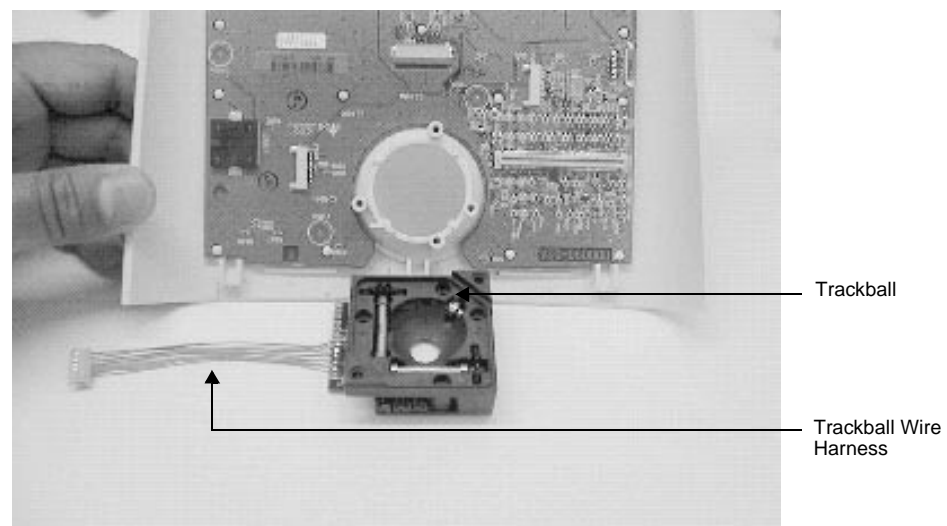

Figure 7.12 Removing the Trackball
- 13** Holding the Trackball in place, carefully turn the Control Panel Subassembly over and allow the Trackball to drop off of the Control Panel Subassembly, to prevent losing the Trackball parts (Figure 7.12).
- 1 Remove the four screws that hold the top cover on the new Trackball using a #1 Phillips screwdriver. Discard the cover and screws. Be careful not to tip the Trackball and spill the Trackball parts (Figure 7.12).